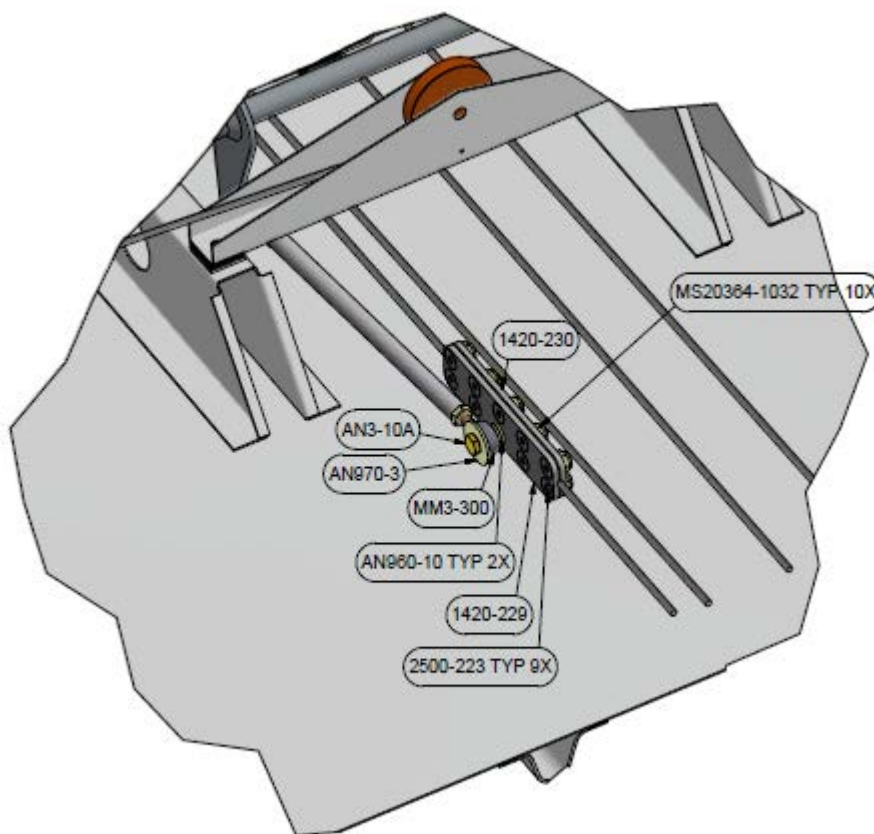

Figure 2-23
- 1.36. Loosely assemble the pitch cable clamp assembly around the elevator cable as shown in Figure 2-23 so that the clamp will freely move on the elevator cable.